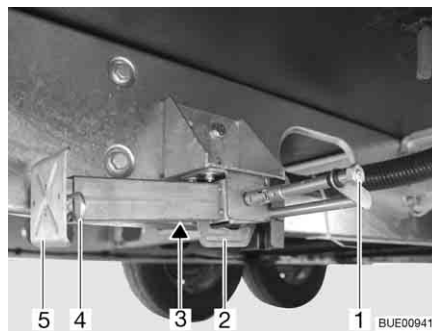

Fig. 47 Steady leg
- Place the socket spanner on the hexagonal nut (Fig. 47,1) and rotate until the steady leg is in a perpendicular downward position.
- If the length of the steady leg can be adjusted, remove the splint (Fig. 47,4) out of the support foot extension (Fig. 47,5).
- Place the socket spanner on the hexagon nut (Fig. 47,1) and rotate until the steady leg is clear of the ground.
- Push in the support foot extension (Fig. 47,5) and insert the splint (Fig. 47,4) in the drilled hole in the support foot extension.
- Rotate the hexagonal nut (Fig. 47,1) until the steady leg has swung upwards and the guide (Fig. 47,2) has reached the very end of the slot (Fig. 47,3).